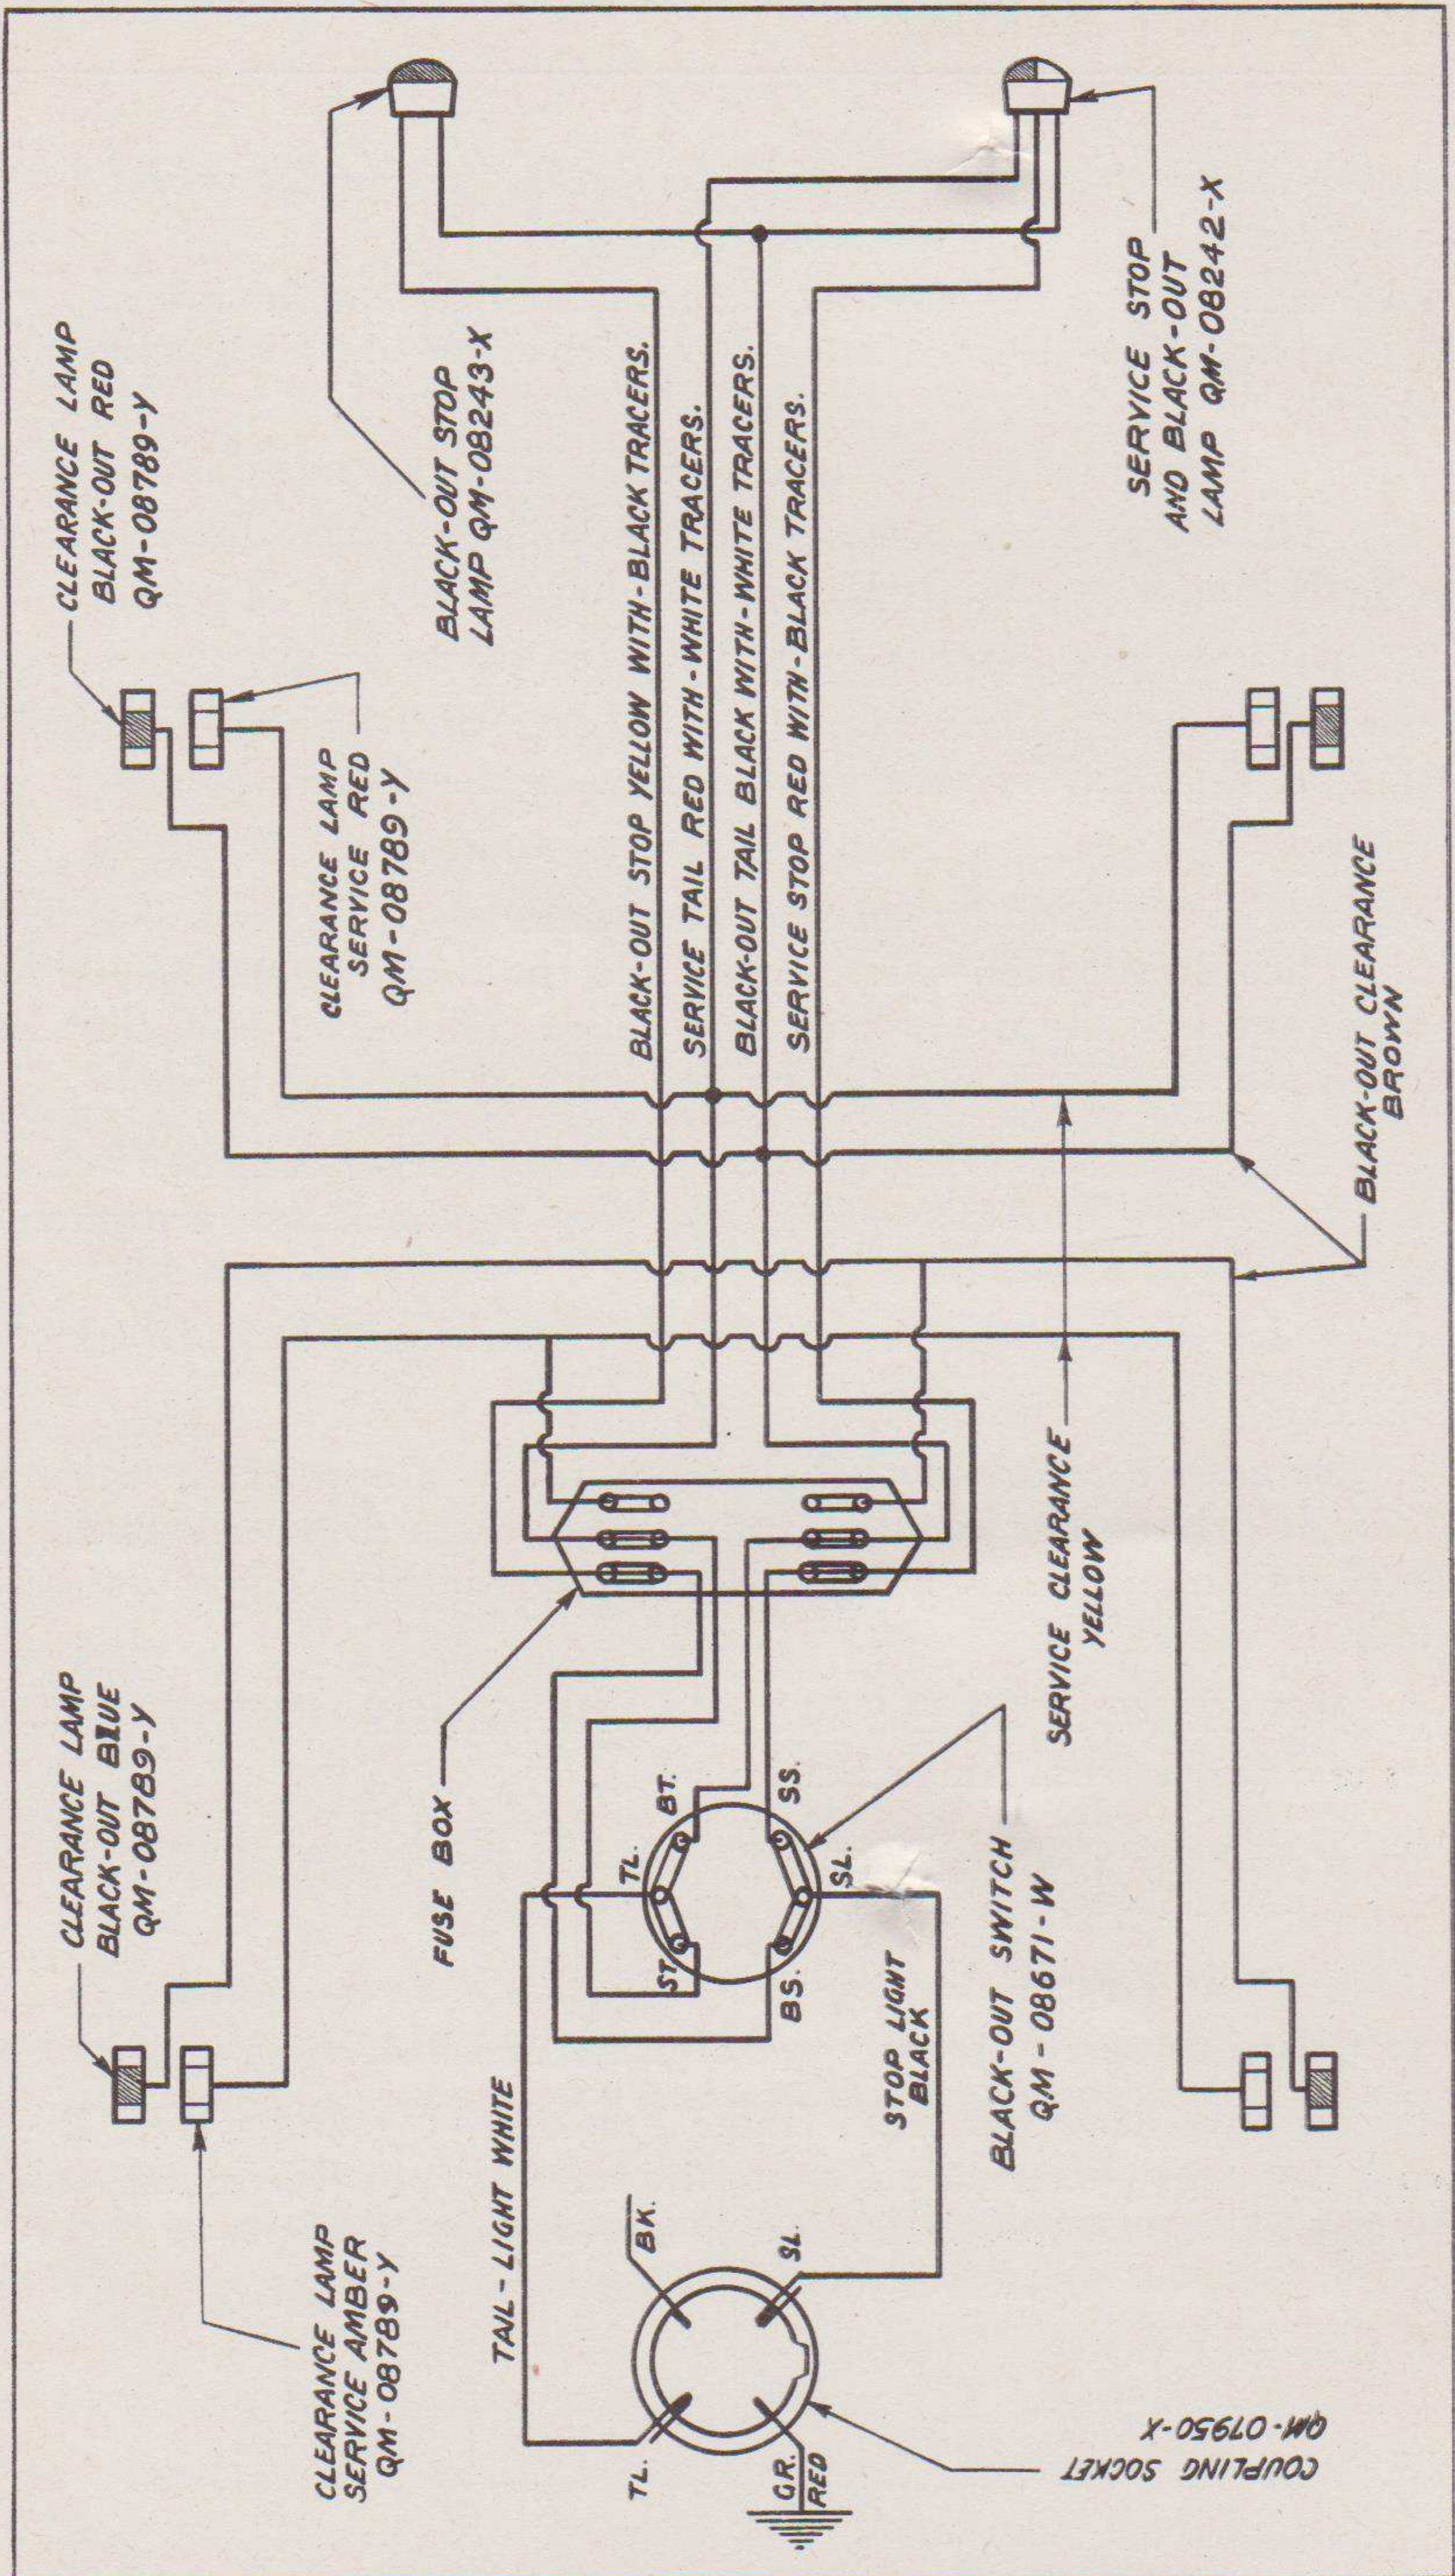

FIGURE 30. SCHEMATIC WIRING DIAGRAM
1. **WIRING.**—The general electrical circuit diagram shown in Figure 30 illustrates all of the electrical circuits used on this vehicle. With this diagram, the various circuits can be traced and wiring replacement made. All electrical units are shown in their relative position. Each wire in the electrical system is of a distinctive color. A key to these colors will be found on the circuit diagram. (Figure 30.)